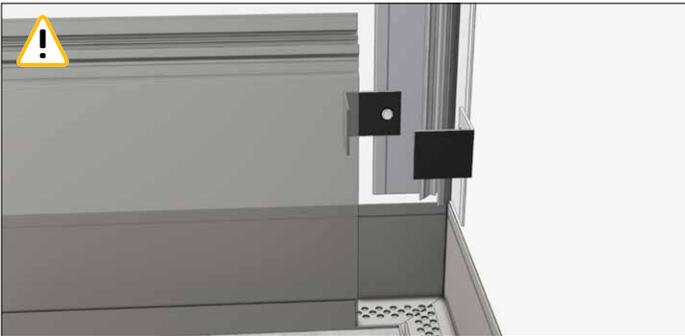

Figure 21.1
25. For Inside Corners only, apply a Plank Backer behind each Plank in a vertical direction facing away from the inside corner, fastening it through the fastener line. Place the backer below the top edge of each Plank so it comes into contact with the back side of the main surface of the Plank. (Figure 21.1)
Must fasten backer along fastener line for inside corners, must have a backer at every inside corner Plank. (Figure 21.1)